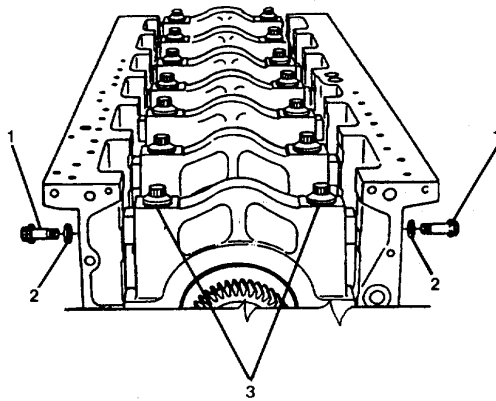

FIGURE 4-47. Main Bearing Side Bolt Removal.
- a. Remove the main bearing cap side bolts (1, FIG. 4-47) and washers (2) from each side of the block.